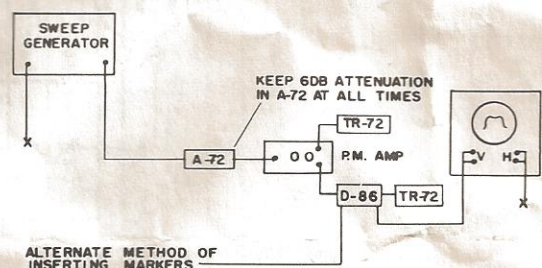

Figure 6. Alignment Test Set-up
3. Set up test equipment as shown in Figure 6.
11. Set up test equipment as in Figure 6 to check gain of the amplifier.